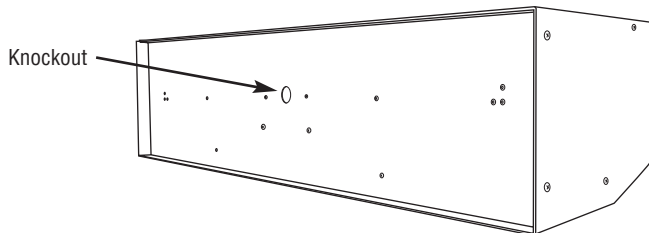

Figure 3
1. Remove knockout from back of unit cabinet (see Figure 3).